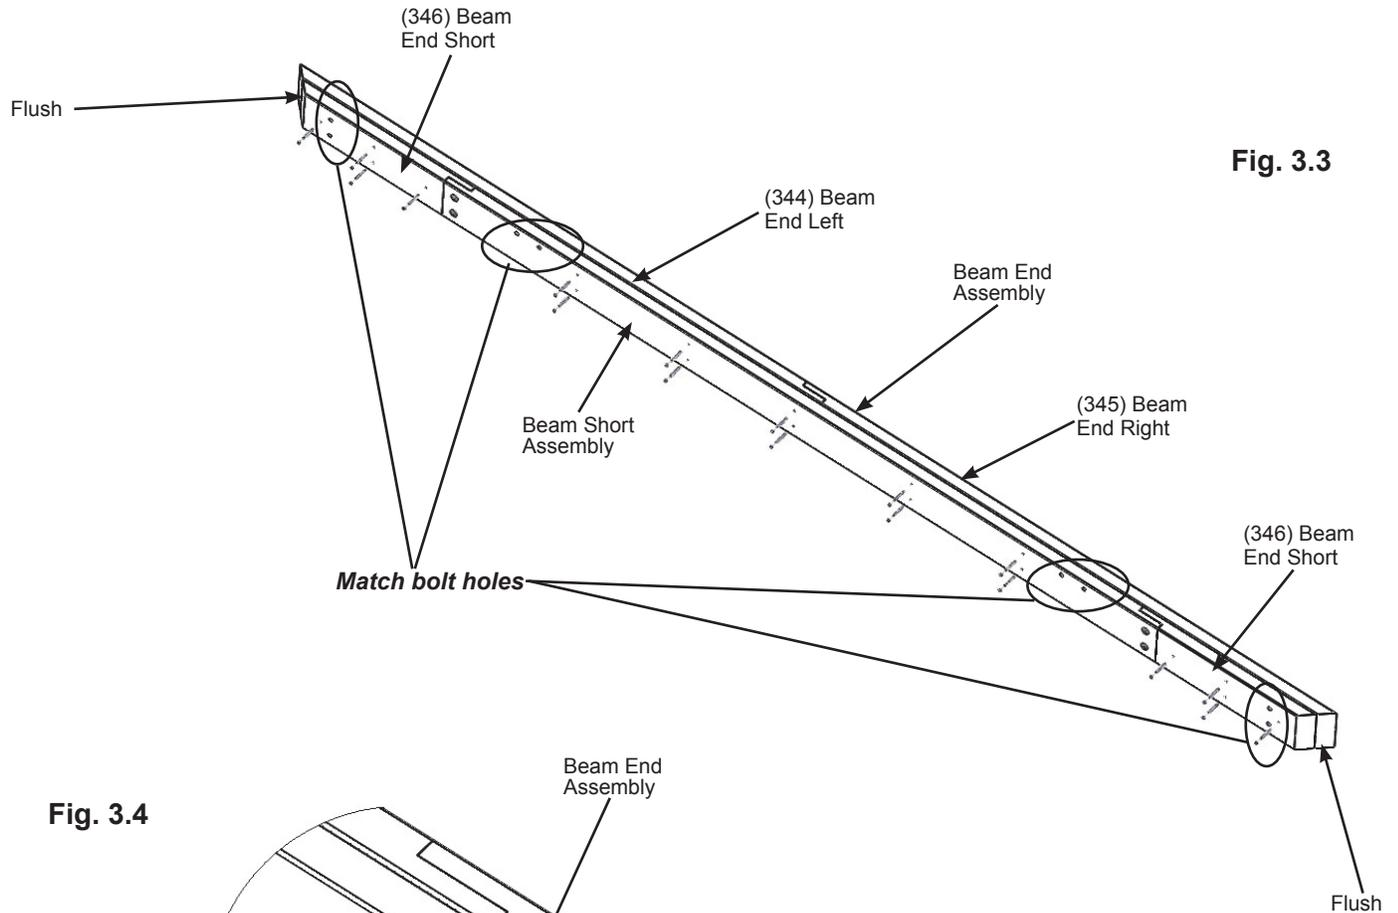

Fig. 3.3
D: Place one Beam Short Assembly on one Beam End Assembly so the ends are flush. Match the bolt holes in each (346) Beam End Short with the bolt holes in (344) Beam End Left and (345) Beam End Right. Attach with 18 #8 x 2-1/2" Wood Screws. (fig. 3.3 and 3.4)